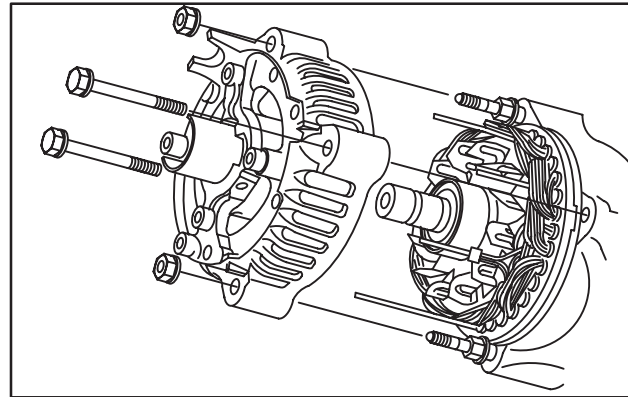

Fig. 26 – Remove Brush End Housing
9. Remove brush end housing being careful not to damage stator leads, Fig. 26.